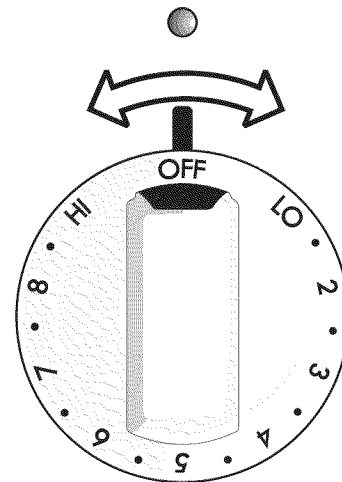

Fig. 2
2. Push in and turn the surface control knob in either direction to the desired setting (See Fig. 2).